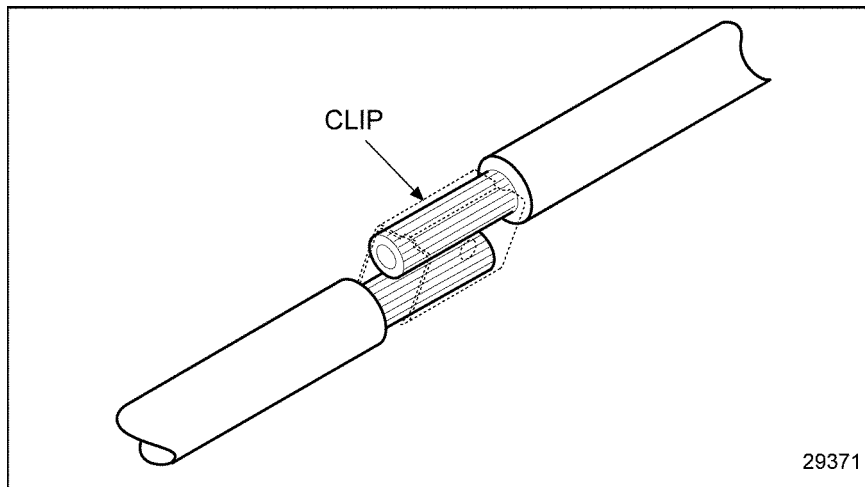

Figure 17-15 **Securing the Leads With a Clip**
2. Secure the leads with a commercially available clip and hand tool. See Figure 17-15.